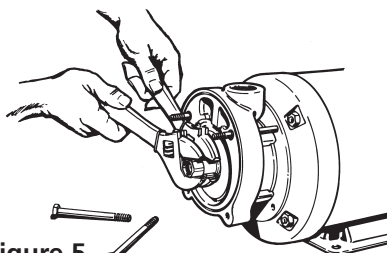

Figure 5
5. Remove the impeller driver, refer to Figure 5. Two (2) adjustable wrenches are used to remove the impeller driver (Ref. No. 9A).